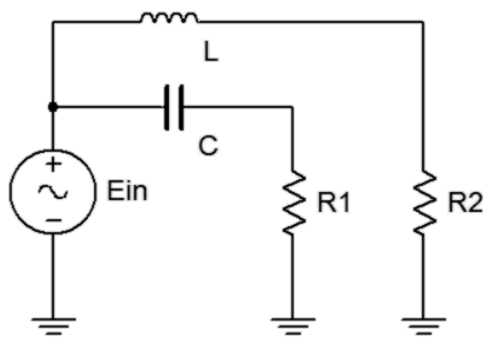

Figure 9.1
1. The circuit of Figure 9.1 can be thought of as a pair of frequency dependent voltage dividers. X_L increases with frequency, thus attenuating high frequency signals reaching $R2$. Similarly, X_C increases with a decrease in frequency, thus attenuating low frequency signals reaching $R1$. ($R2$ takes the place of the woofer while $R1$ takes the place of the tweeter). The crossover frequency is the frequency where $R1 = X_C$ and $R2 = X_L$ (normally the same frequency for both). Using $C = 250 \text{ nF}$, $L = 100 \text{ mH}$, and $R1 = R2 = 620 \text{ } \Omega$, determine the crossover frequencies and record in Table 9.1.
3. Build the circuit of figure 9.1 using $R1 = R2 = 620 \text{ } \Omega$, $L = 100 \text{ mH}$, and $C = 250 \text{ nF}$. Place one probe across the generator and another across output one ($R1$). Set the generator to a 2 V p-p sine wave at 50 Hz . Make sure that the *Bandwidth Limit* of the oscilloscope is engaged for both channels. This will reduce the signal noise and make for more accurate readings.